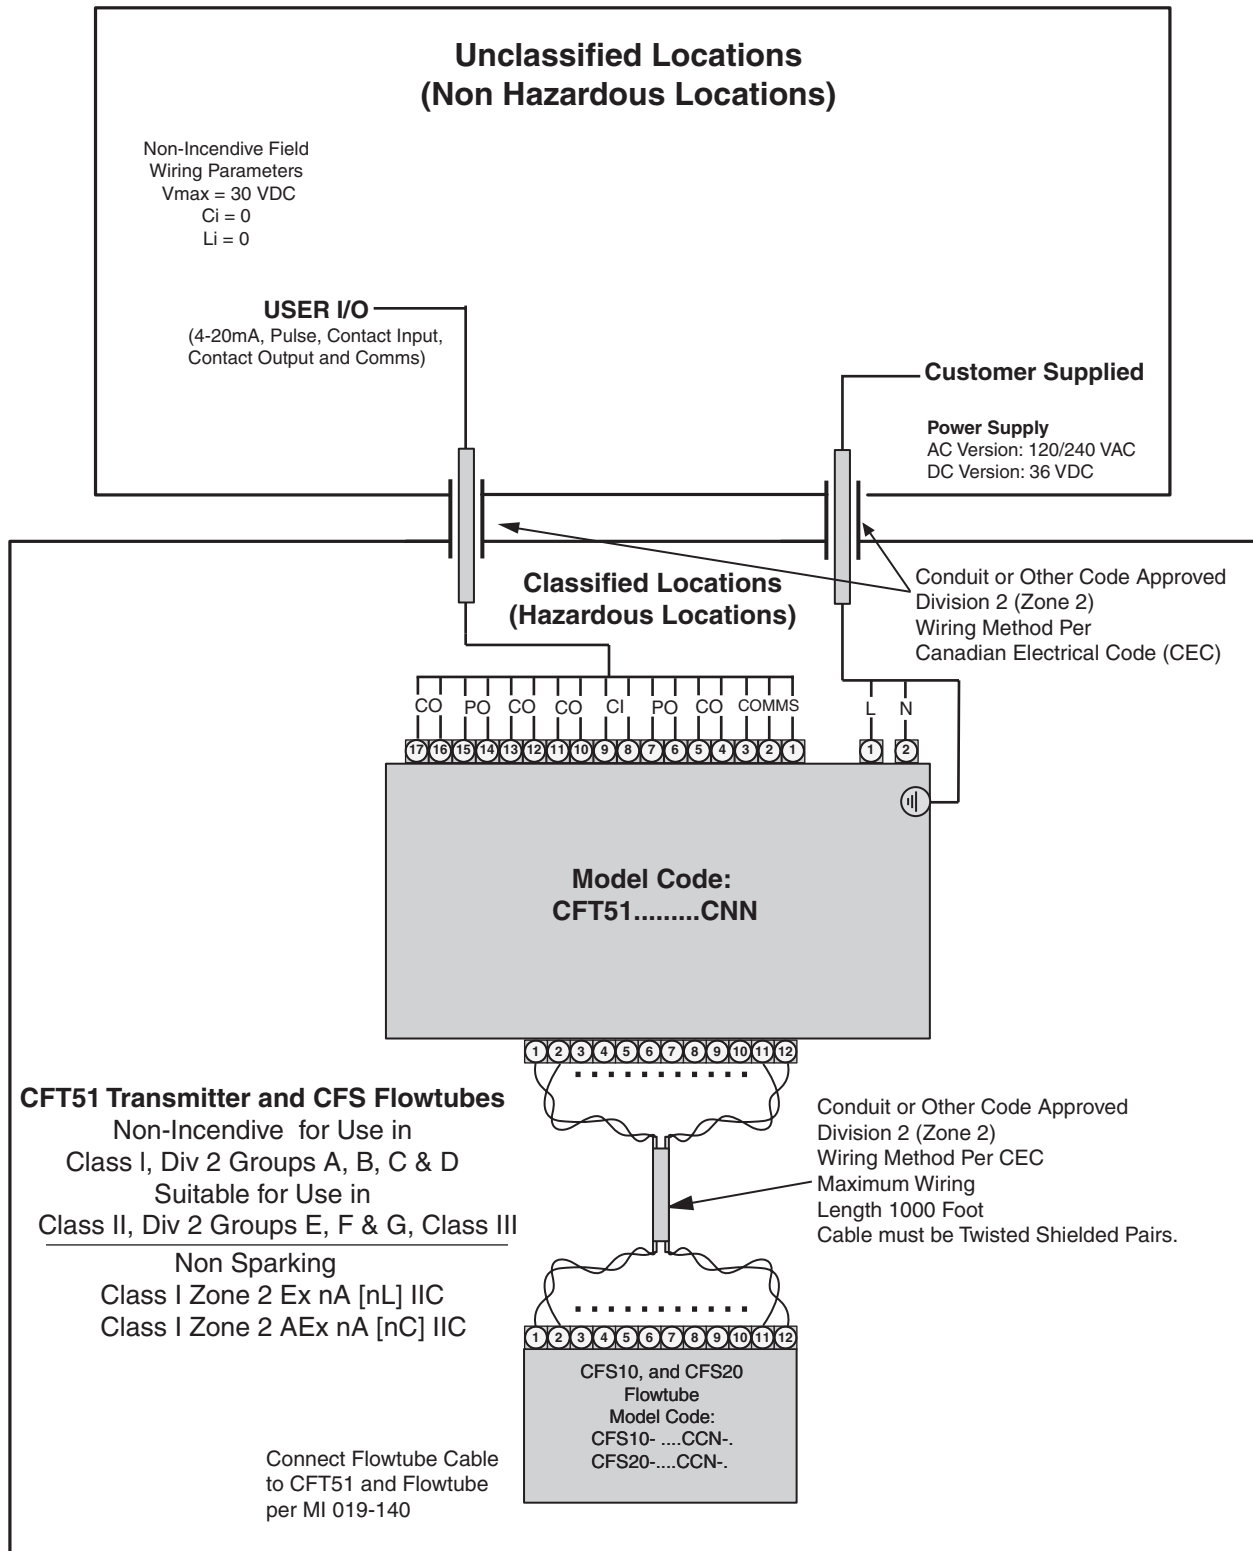

Figure 5. Flowtube and Transmitter Located in Class I, Division 2 (Non-Incendive) Area
1. Figure 5 must not be revised without prior CSA approval.